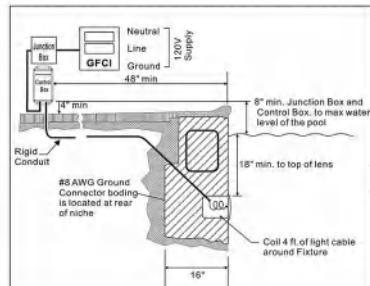

Figure 1
2. The junction box (or, for 12 volt models, the low voltage transformer) must be located at least eight(8) inches above water level, at least four (4) inches above ground level, and at least four (4) feet from the edge of the pool. See Figure 1.
3. The light fixture and all metal items within five(5) feet of the pool must be properly electrically bonded to a reliable point of grounding.
4. The wet niche must be properly installed so that the top edge of the underwater light's lens is at least 18 inches below the surface of the water in the pool. See Figure 1.
5. The wet niche must be properly electrically bonded and grounded via the No. 8 AWG ground connector located at the rear of the niche. See Figure 1.
1. Feed cord through conduit to junction box, leaving at least four (4) feet of cord at the light fixture to coil into the base of the light niche, see Figure 1. The four (4) feet of cord allows the light to be serviced after the pool is filled with water.
2. Cut the cord at the junction box, leaving at least six (6) inches of cord to make connections.
- The junction box (or, for 12 volt models, the low voltage transformer) must be located at least eight(8) inches above water level, at least four (4) inches above ground level, and at least four (4) feet from the edge of the pool. See Figure 1.
4. The light fixture and all metal items within five(5) feet of the pool must be properly electrically bonded to a reliable point of grounding.
The wet niche must be properly installed so that the top edge of the underwater light's lens is at least 18 inches below the surface of the water in the pool. See Figure 1. The wet niche must be properly electrically bonded and grounded via the No. 8 AWG ground connector located at the rear of the niche. See Figure 1.
4. Feed cord through conduit to junction box, leaving at least four (4) feet of cord at the light fixture to coil into the base of the light niche, see Figure 1. The four (4) feet of cord allows the light to be serviced after the pool is filled with water.
5. Cut the cord at the junction box, leaving at least six (6) inches of cord to make connections.